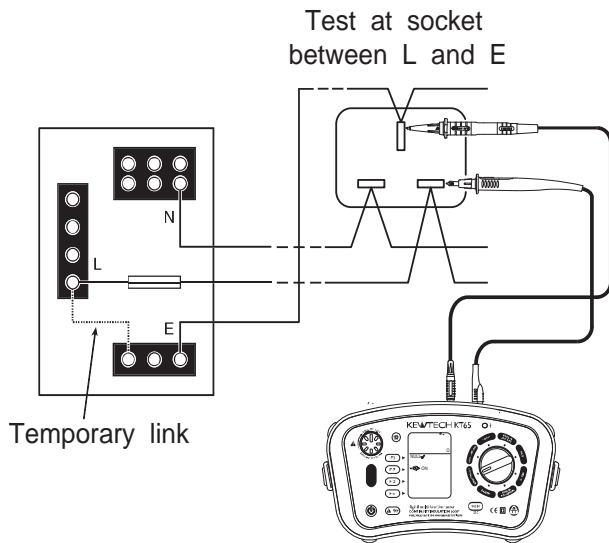

Fig. 14
- 7 Connect the test leads to the circuit whose resistance is required (see Fig.14 for a typical connection arrangement), having first made sure **that the circuit is not live**. Note that “Live Circuit” warning will be displayed on the LCD if the circuit is live - but check first anyway!